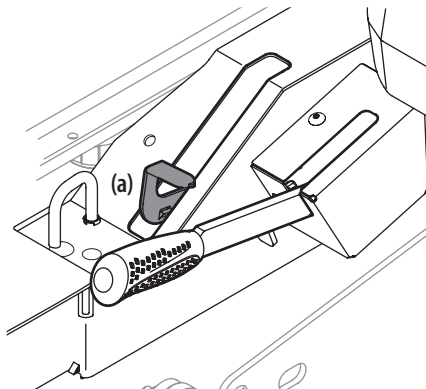

Figure 4-8
1. Engage the transmission bypass valves by pulling the bypass lever (a) upward and all the way back. See Figure 4-8.
2. To release the bypass lever (a), push the lever forward. See Figure 4-8.